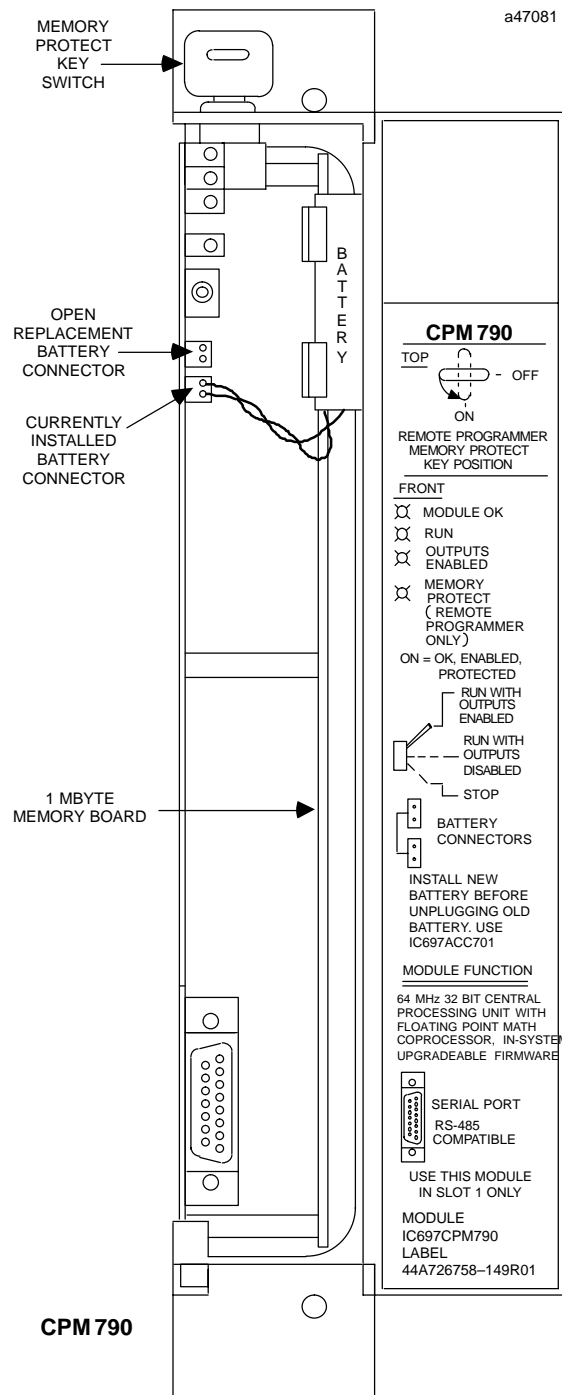

Figure 2. CPM 790 - Location of Major Features
- Connect the battery to either of the battery connectors on the module (see Figure 2).